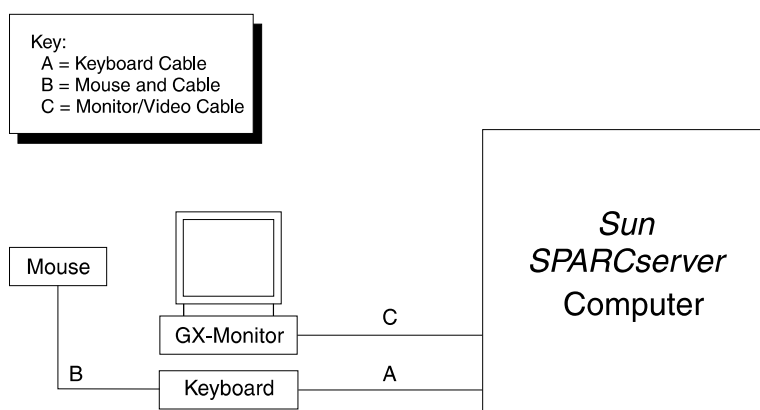

Figure 3-6: *Sun SPARCserver* Computer and System Console Connectivity
This section describes how to connect the system console peripherals to the *Sun SPARCserver* computer (see Figure 3-6).
2. Connect the following components (see Figure 3-6):